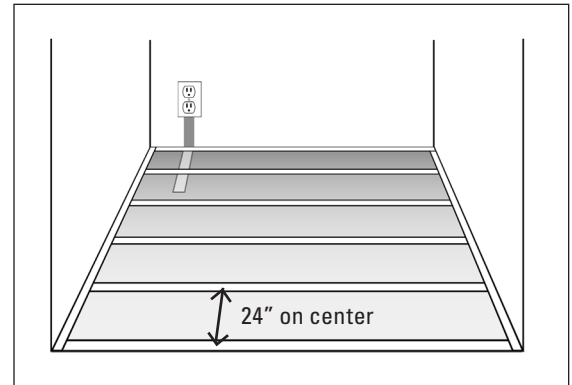

Figure 1: SmartGround tape Installation
- Install grounding strip. Julie Industries recommends installing one (1) grounding strip per 1,000 square feet of installation area. For proper ground strip installation, please refer to the Julie Industries grounding instructions guidelines.
- A perimeter of SmartGround should be installed along the edges of the room, connecting all of the strips previously laid down on the subfloor. Be sure to overlap the copper ground strap with the SmartGround strip, as this will create a continuous path to ground for safe, and effective removal of static charges. (See Figure 1)